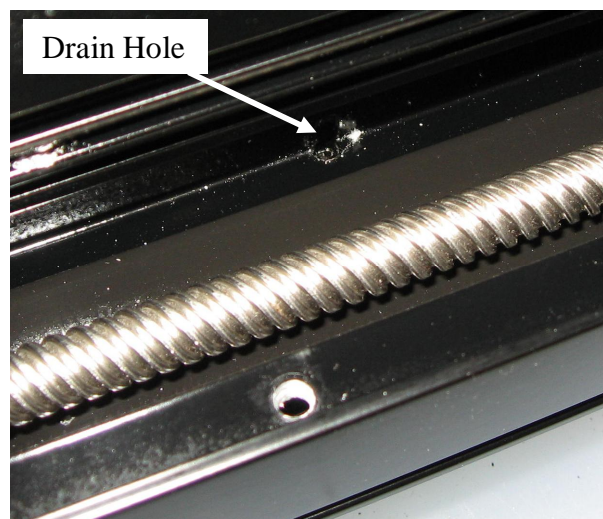

Figure 21
- 7) Inspect the drainage holes in the lower frame and insure that the holes are not obstructed. (Figure 21)